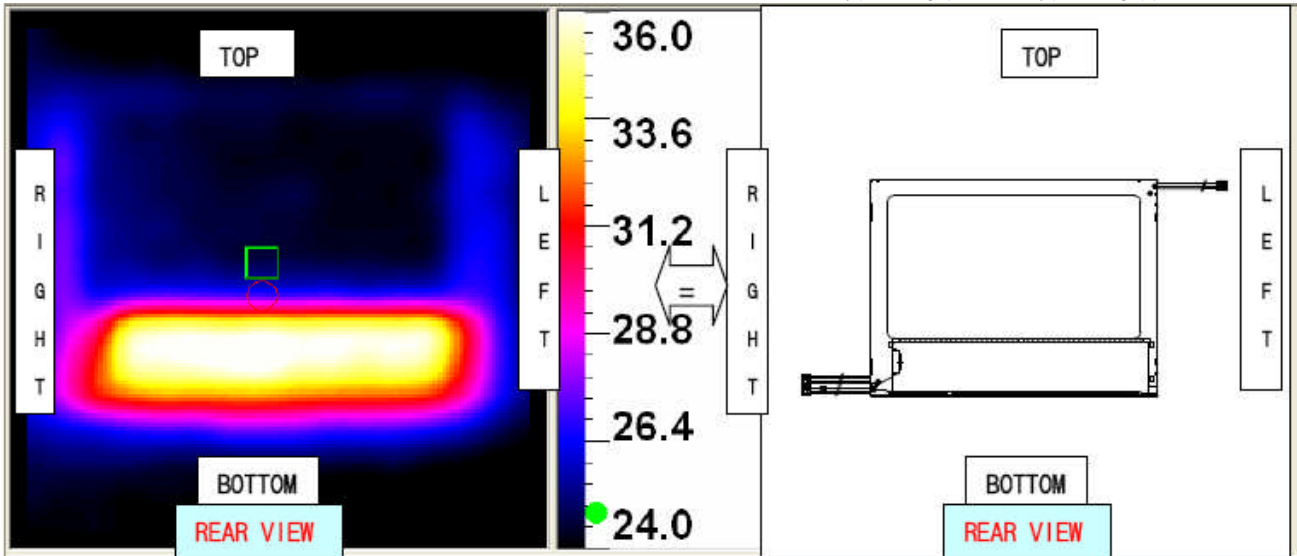

Figure 1. Thermal Map Showing the Heat Imaging of the LVM104XSB-02B-L-NVG w/ Day Mode (REAR VIEW)
- (4) Be careful for condensation at sudden temperature change. Condensation makes damage to polarizer or electrical contacted parts. And after fading condensation, smear or spot will occur.
- (5) When fixed patterns are displayed for a long time, remnant image is likely to occur.
- (6) A module has high frequency circuit. It might be necessary to shield the electromagnetic noise in your integrating system.
- (7) When a Backlight unit is operating, it may make sounds. It might be necessary to shield your integrating system to cut down the noise.
- (8) The thermal map showing the heat imaging of the module (LVM104XSB-02B-L-NVG) is shown in figure 1. Please reference the thermal map for optimum thermal design to maximize the MTBF of LED life.